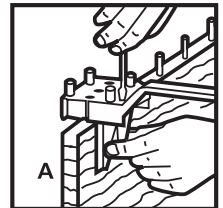

Figure 38
8. With the 4 centring pegs pointed down, slide the Quick Dowel Jig over one of the dowel pins in the edge of board A. Slide the angle piece forward until it rests against the board, then tighten the screws to secure the angle piece to the jig. See Figure 38.